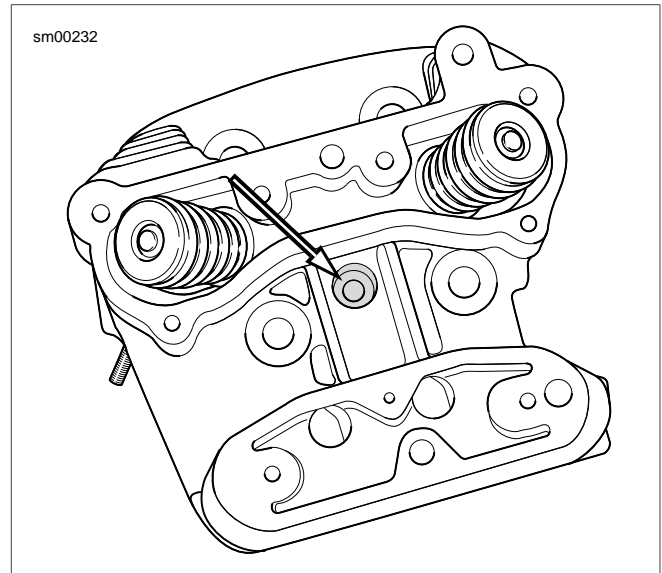

Figure 4-16. Location of Engine Temperature Sensor in Rear Cylinder Head
- See Figure 4-16. Screw sensor into rear cylinder head.